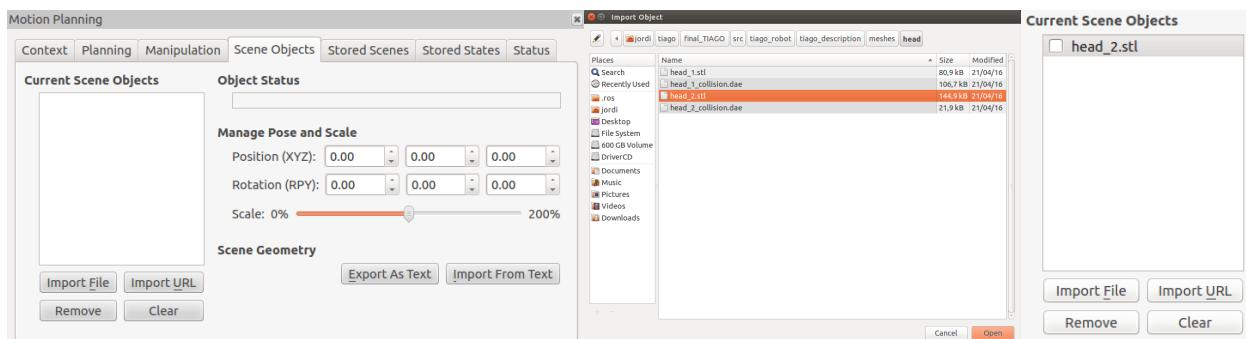

Figure 131: Scene objects tab (left), select the mesh (center), and the object listed in scene objects (right)
1. To add such an object to the planning environment, navigate to the “Scene objects” tab in the planning environment window, then click “Import file” and navigate to the `tiago_description` package, where the mesh of the head can be found in the `meshes/head` folder, as shown in figure 131.